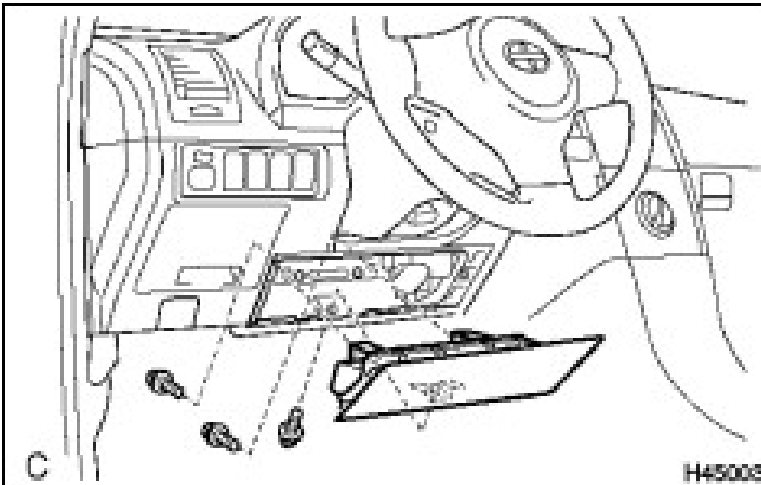

Fig. 1-22
- Reinstall the knee air bag assembly and the two knee trim panels (Fig. 1-22).